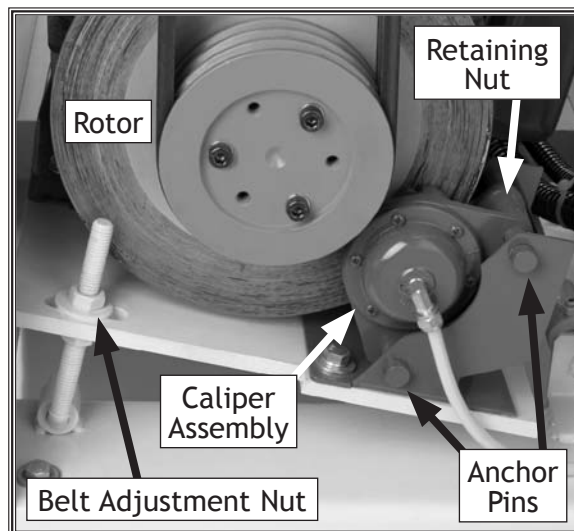

Figure 40. Belt removal access.
4. Use a 14mm wrench and remove the upper caliper anchor pin retaining nut and washer. See **Figure 40**.
5. Use locking pliers to clamp on the anchor pin end, pull the pin from the caliper mount, and remove the springs. See **Figure 40**.
7. Remove the upper belt adjustment nut and washer (**Figure 40**).